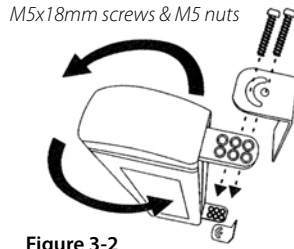

Figure 3-2
2). Using (2) M5 nuts and (2) M5x18mm screws attach right angle bracket (Figure 3-2) to units 'A' and 'B'.